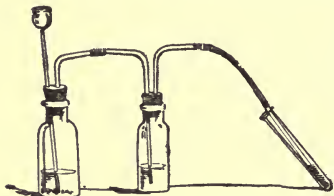

Fig. 36.
(1) Put into a gen. (rec. or t.t.) 5g FeS, 10cc H2O, and 5cc HCl (or H2SO4). Adjust a d.t., having the joints perfectly tight, and pass the gas for a minute or two into 5cc H2O in another t.t. or beaker (Fig. 36). Note the odor. Can you determine whether the gas is soluble in H2O? (2) See whether the sol. is acid, alkaline, or neutral. With a s.r. put a drop of